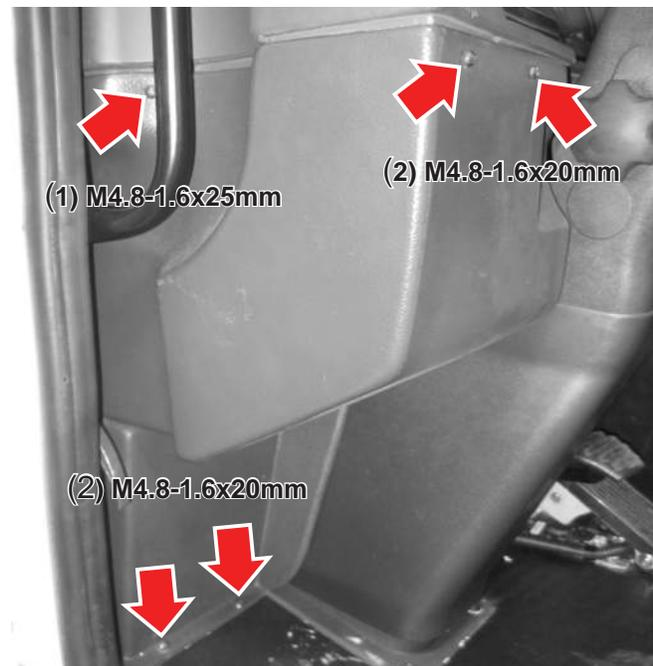

Figure 25-1
1. Align the new lower LH instrument panel trim panel (A5700042-001) with mounting spring nuts on the upper instrument panel (see *Figure 25-1*).
2. Reinstall the three upper sheet metal screws, ensuring they are driven through the spring nuts (see *Figure 25-1*).
3. Install the lower two sheet metal screws (see *Figure 25-1*).